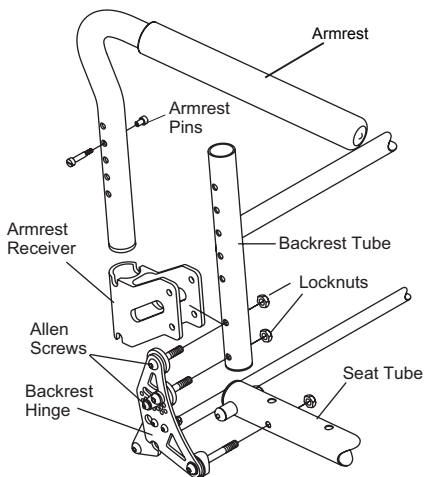

Figure 39
2. Remove both armrest pins. See Figure 39.
2. Remove the two Allen Screws that pass through the backrest hinge, the armrest receiver and the backrest tube. See Figure 39. Do not remove the Allen Screws that attach the backrest hinge to the seat tube.